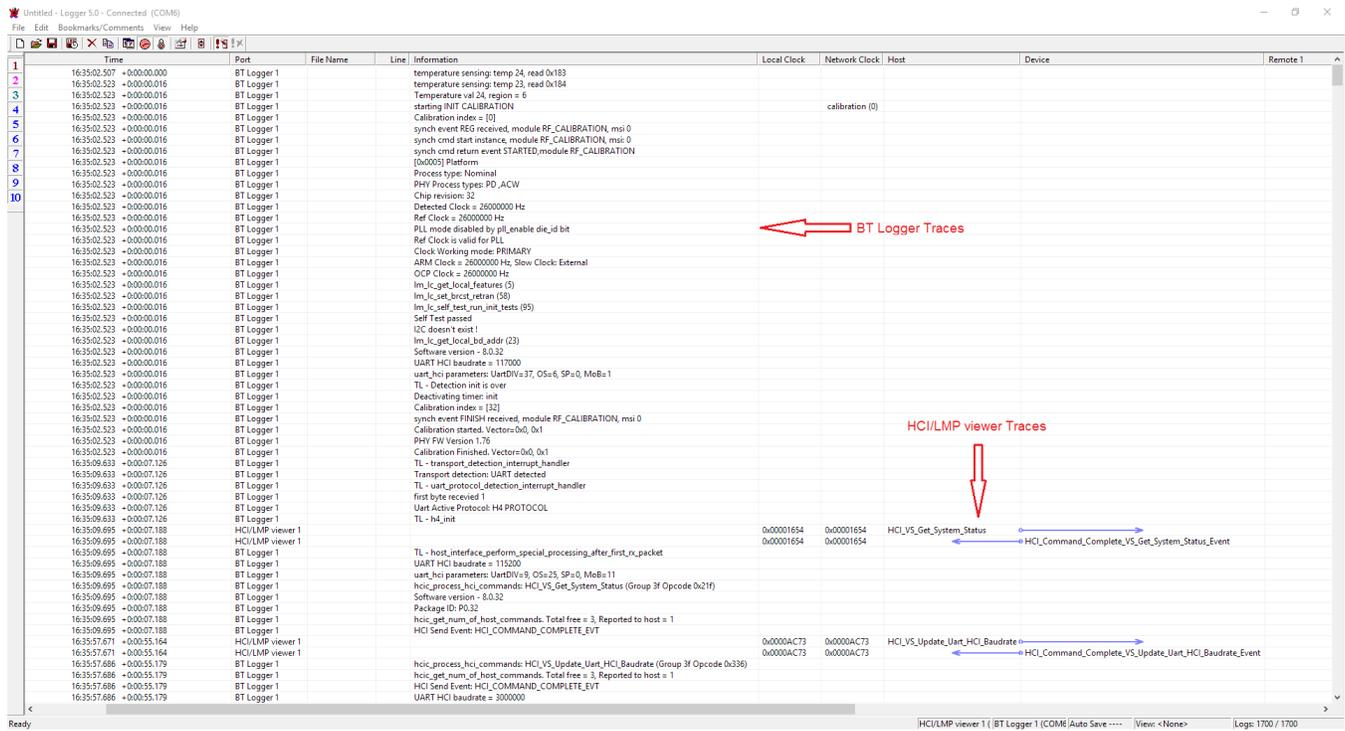

Figure 15. BT Controller Initialization Logs
2. Power up the Bluetooth® device and enable the BT controller. An initialization sequence will be captured in the Logger windows as shown in Figure 15.